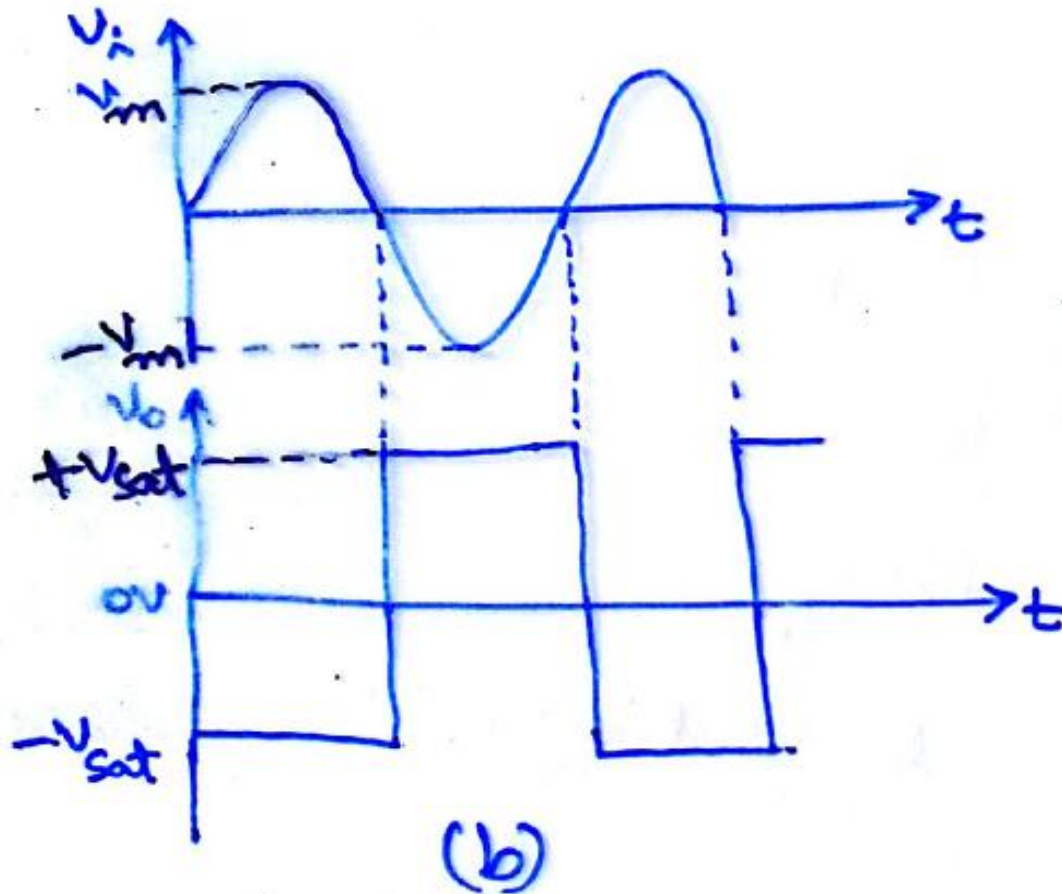

Fig 5.4 (a) Zero crossing detector (b) Input and o/p waveforms
- The basic comparators either non-inverting or inverting can be used as a zero crossing detector provided that V_{ref} is set to zero. An inverting zero-crossing detector is shown in figure 5.4 (a).
- The input and output waveforms are shown in Figure 5.4 (b).